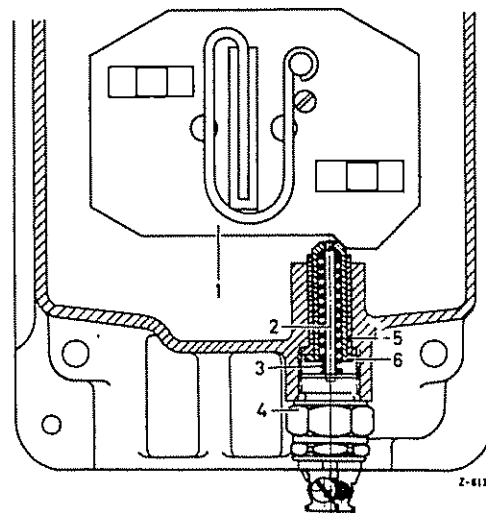

Fig. 26-4/5
- 8. Screw in the hexagon socket screw (8) together with lock washer (7) and tighten (see Fig. 26-4/4).
- 9. Install the guide plate. The plate must be easy to move. First install the washer and then the spring washer. Screw in the nuts and lock them by compressing their collars at the top (see Fig. 26-4/2).
Note: When installing the guide plate (1) make sure that the plate has a spring riveted to it (guide plates without spring are only used for transmissions with steering wheel shift system) (Fig. 26-4/5).
- 10. Install the bar (6) and the pressure spring (3) for the reverse gear stop as well as the pressure pin (2) for the reversing light switch in the transmission case cover and screw in the reversing light switch (4) (Fig. 26-4/5).